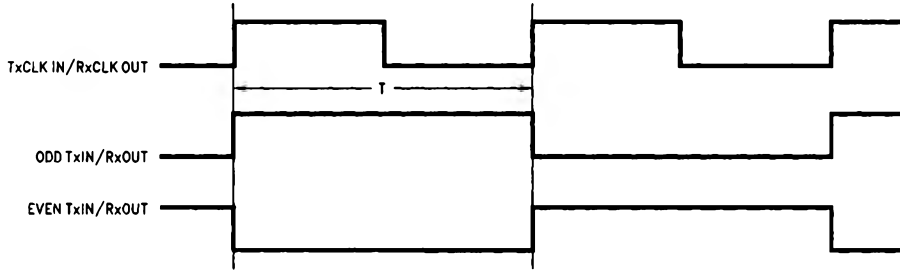
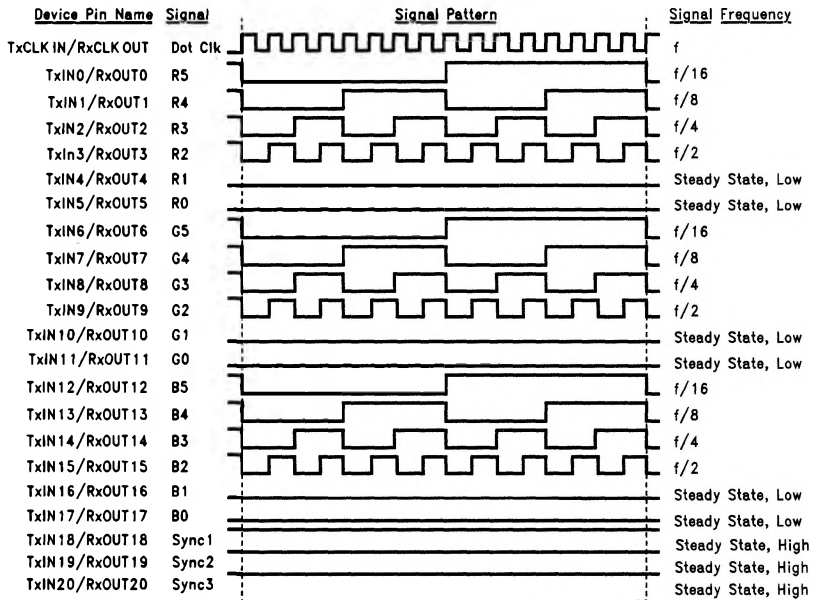

FIGURE 1. "Worst Case" Test Pattern
FIGURE 2. "16 Grayscale" Test Pattern
| I CC TW                | Transmitter Supply Current, Worst Case   | R L = 100Ω, C L = 5 pF, Worst Case Pattern (Figures 1, 3) | f = 32.5 MHz |     | 34  | 46    | mA |
| I CC TG                | Transmitter Supply Current, 16 Grayscale | R L = 100Ω, C L = 5 pF, Grayscale Pattern (Figures 2, 3)  | f = 32.5 MHz |     | 27  | 42    | mA |
| I CC RW                | Receiver Supply Current, Worst Case      | C L = 8 pF, Worst Case Pattern (Figures 1, 4)                        | f = 32.5 MHz |     | 55  | 75    | mA |
| I CC RG                | Receiver Supply Current, 16 Grayscale    | C L = 8 pF, 16 Grayscale Pattern (Figures 2, 4)                      | f = 32.5 MHz |     | 35  | 55    | mA |
**Note 3:** Figure 1 and Figure 2 show a falling edge data strobe (TxCLK IN/RxCLK OUT).